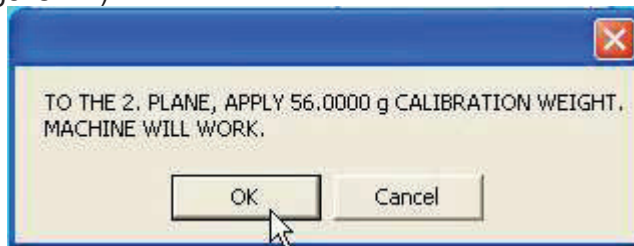

Figure-11
- Now, apply the calibration weight to the entered calibration diameter on the 1. Plane and position the weight to 12 o'clock position (where you want to see the heavy part after calibration) and click OK. The machine will start again. After a while the machine stops and you will see the message "To the 2. Plane, apply ... calibration weight machine will work" in the dialog box. (Figure-11)